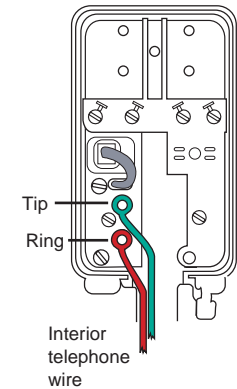

Figure 22. Indoor connection
1. Run standard telco wire (not provided) from the interior rooms where the telephones will be located to the junction box. The wire distance between the junction box and the telephone farthest from the junction box should be no longer than 167 meters (550 feet). (See Figure 22.)